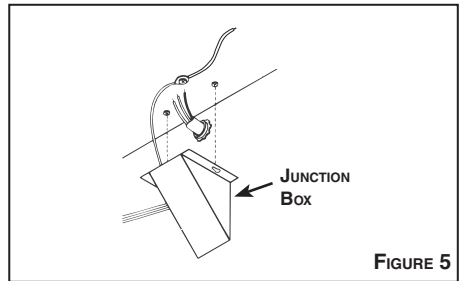

FIGURE 5
1. Refer to Figure 5. Loosen screws and remove junction box.